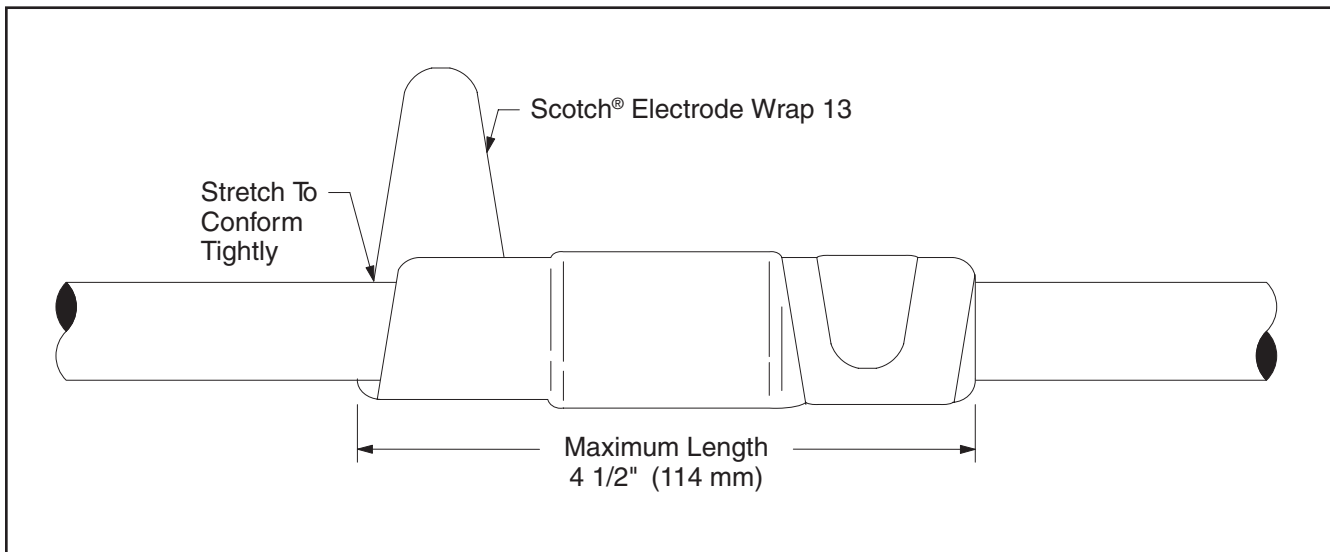

Figure 10
- b. Individually wrap each leg of Electrode Wrap over area at ends of connector and cable insulation. Apply with adequate tension so legs conform tightly onto cable insulation (*Figure 10*).